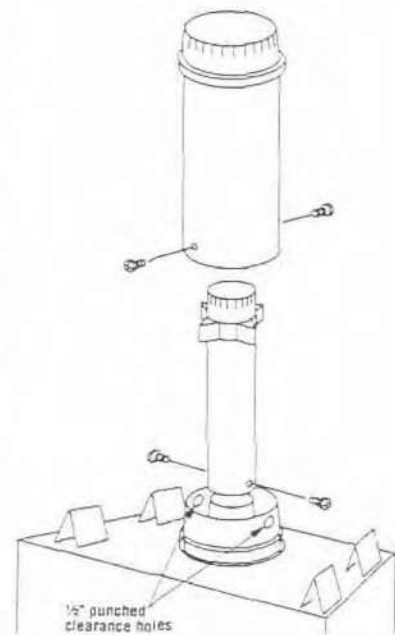

Figure 19
B. The vent sections are crimped at one end to provide a slip fit for elbows and additional vent sections. To begin a vent run, apply _Mill-Pac Black (700°F) high temperature sealant to the inner joint, being sure of a 100% seal (Figure 19). Slide the 5" (127 mm) inner section onto the center appliance collar. (Crimped end always upward.) Locate and transfer drill a 1/8" (3 mm) diameter hole through the collar at the two (2) punched holes (180° apart). Use two (2) No. 8 x 1/2" sheet metal screws to secure the section.
C. Next, slip the outer section over the inner and onto outer appliance collar, bottoming out at the bead. Make sure the crimped end of both inner and outer vent sections are the same height. Secure using two (2) sheet metal screws (Figure 19).
E. The vent sections are crimped at one end to provide a slip fit for elbows and additional vent sections. To begin a vent run, apply _Mill-Pac Black (700°F) high temperature sealant to the inner joint, being sure of a 100% seal (*Figure 19*). Slide the 5" (127 mm) inner section onto the center appliance collar. (Crimped end always upward.) Locate and transfer drill a 1/8" (3 mm) diameter hole through the collar at the two (2) punched holes (180° apart). Use two (2) No. 8 x 1/2" sheet metal screws to secure the section.